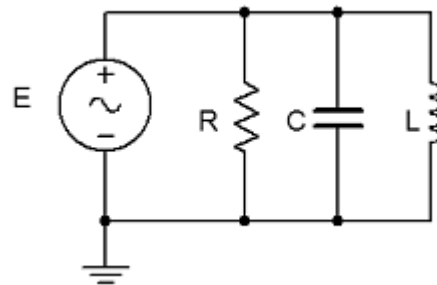

Figure 1
1. Using Figure 1 with a 10 V p-p 10 kHz source,  $R=1\text{k}\Omega$ ,  $C=10\text{nF}$  and  $L=10\text{mH}$ , determine the theoretical capacitive reactance, inductive reactance and circuit impedance, and record the results in Table 1 (the experimental portion of this table will be filled out in step 5). Using the current divider rule, compute the currents in resistor( $i_R$ ), inductor( $i_L$ ) and capacitor( $i_C$ ) and record them in Table 2.
2. Build the circuit of Figure 1 using  $R=1\text{k}\Omega$ ,  $L=10\text{mH}$  and  $C=10\text{nF}$ . A common method to measure current using the oscilloscope is to place a small current sense resistor in line with the current of interest. If the resistor is much smaller than the surrounding reactance it will have a minimal effect on the current. Because the voltage and current of the resistor are always in phase with each other, the relative phase of the current in question must be the same as that of the sensing resistor's voltage. Each of the three circuit currents will be measured separately and with respect to the source in order to determine relative phase.